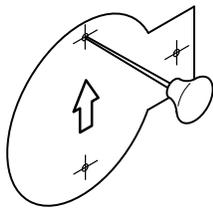

Figure 1
1. Lay the provided template (page 15) against the wall and mark the three hole locations as shown in Figure 1.